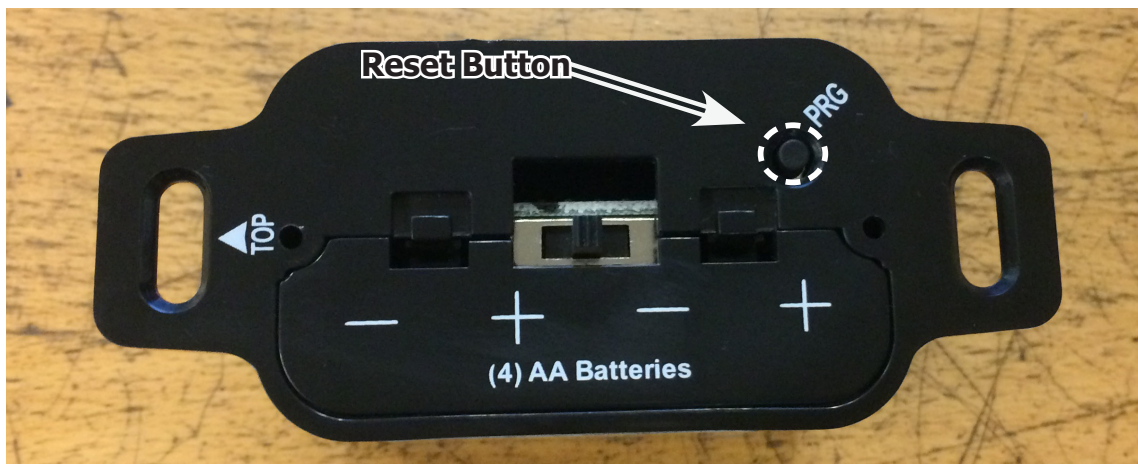

Figure 7: Battery Holder.
The Battery Holder (Figure 7) connects directly to the IFC with a wiring harness. The IFC is powered by four (4) AA type batteries. The Battery Holder has a three (3) position slider switch that can be set to one of three positions: ON (Manual Override), Remote (Remote control), or Off. The Battery Holder has a reset button at the front right corner that is used to synchronize the Transmitter when using the for the first time, or after the batteries have been replaced.
Install the four (4) AA batteries into the IFC battery holder. Note the polarity of the battery and insert into the battery bay as indicated on the body of the battery holder. Press the reset button on the Battery Holder marked "PRG" (see Figure 7).